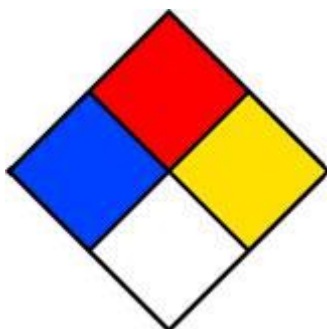

Figure 2 NFPA Diamond
The system is characterized by the diamond shape (*Figure 2*). It identifies the hazards of a material and the degree of severity of the health, flammability, and instability hazards. Hazard severity is indicated by a numerical rating that ranges from zero (0) indicating a minimal hazard, to four (4) indicating a severe hazard. The hazards are arranged spatially as follows: health at nine o'clock position (blue), flammability at twelve o'clock position (red), and instability at three o'clock position (yellow).